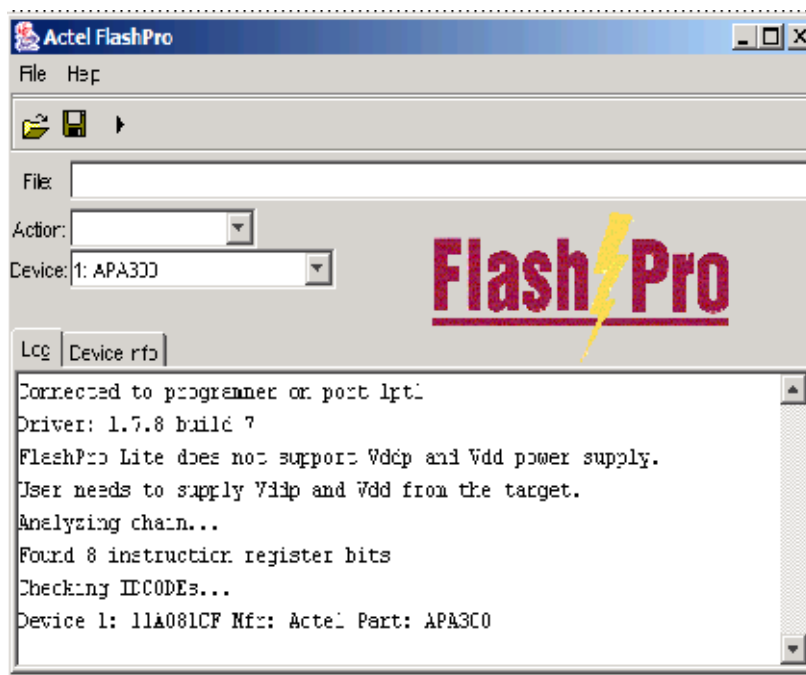

Figure 5-29. FlashPro: Analyzing Chain
1. From the **File** menu, click *Analyze Chain*. Chain details appear in the Log window, as shown in Figure 5-29. If any failures appear, refer to the error and troubleshooting section of the *FlashPro User's Guide* at: